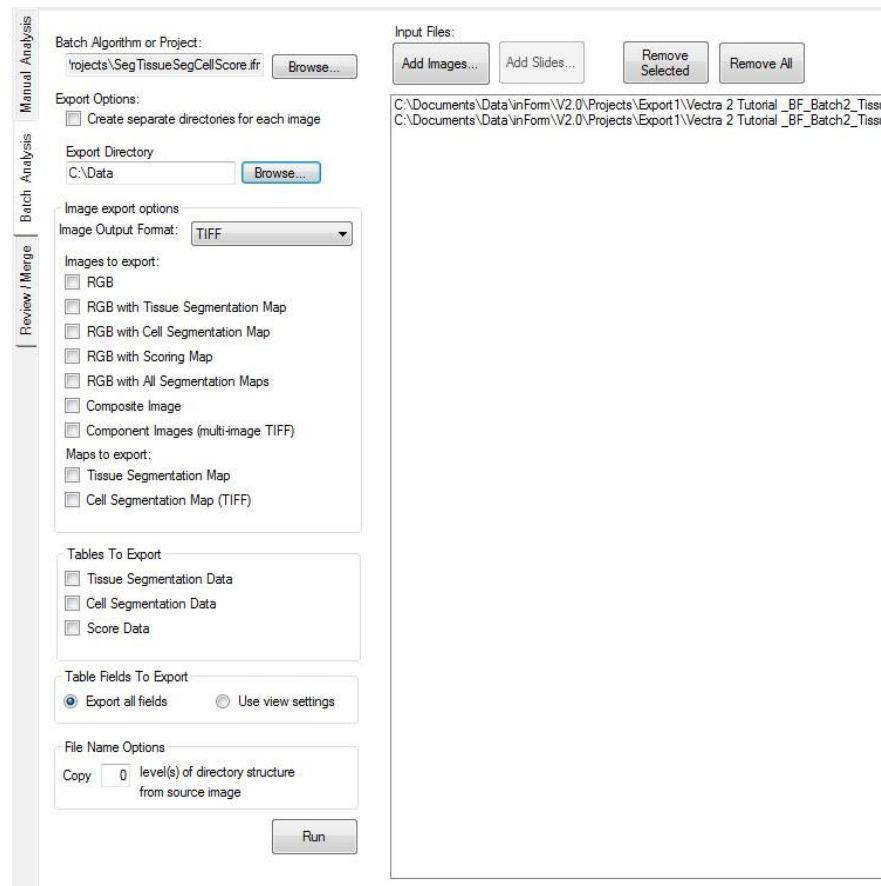

FIGURE 19.1. Batch Analysis tab.
1. Click the Batch Analysis tab to configure the batch settings and select images for processing. You are prompted to save the open project. (See Figure 19.1.) Click Yes to save the open project or No to close without saving.